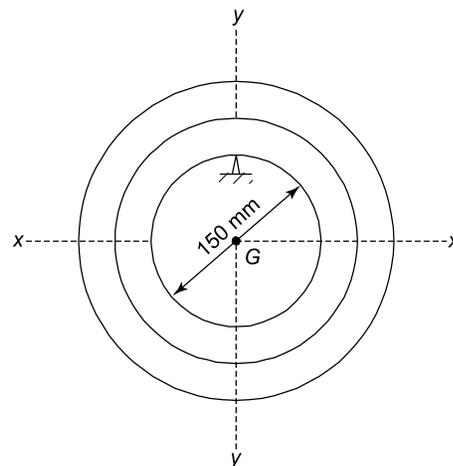

Figure 18.8
Problem 4. It is required to determine the mass moment of inertia about G of a metal ring, which has a complex cross-sectional area. To achieve this, the metal ring is oscillated about a knife edge, as shown in Figure 18.8, where the frequency of oscillation was found to be 1.26 Hz. If the mass of the ring is 10.5 kg, determine the mass moment of inertia about the centre of gravity, I_G . Take $g = 9.81 \text{ m/s}^2$.
By inspection of Figure 18.8, $h = 75 \text{ mm} = 0.075 \text{ m}$.
- What will be the value of the mass moment of inertia through the centre of gravity, I_G , for the compound pendulum of worked problem 4 on page 209, if the inner diameter of the disc of Figure 18.8 were 100 mm?